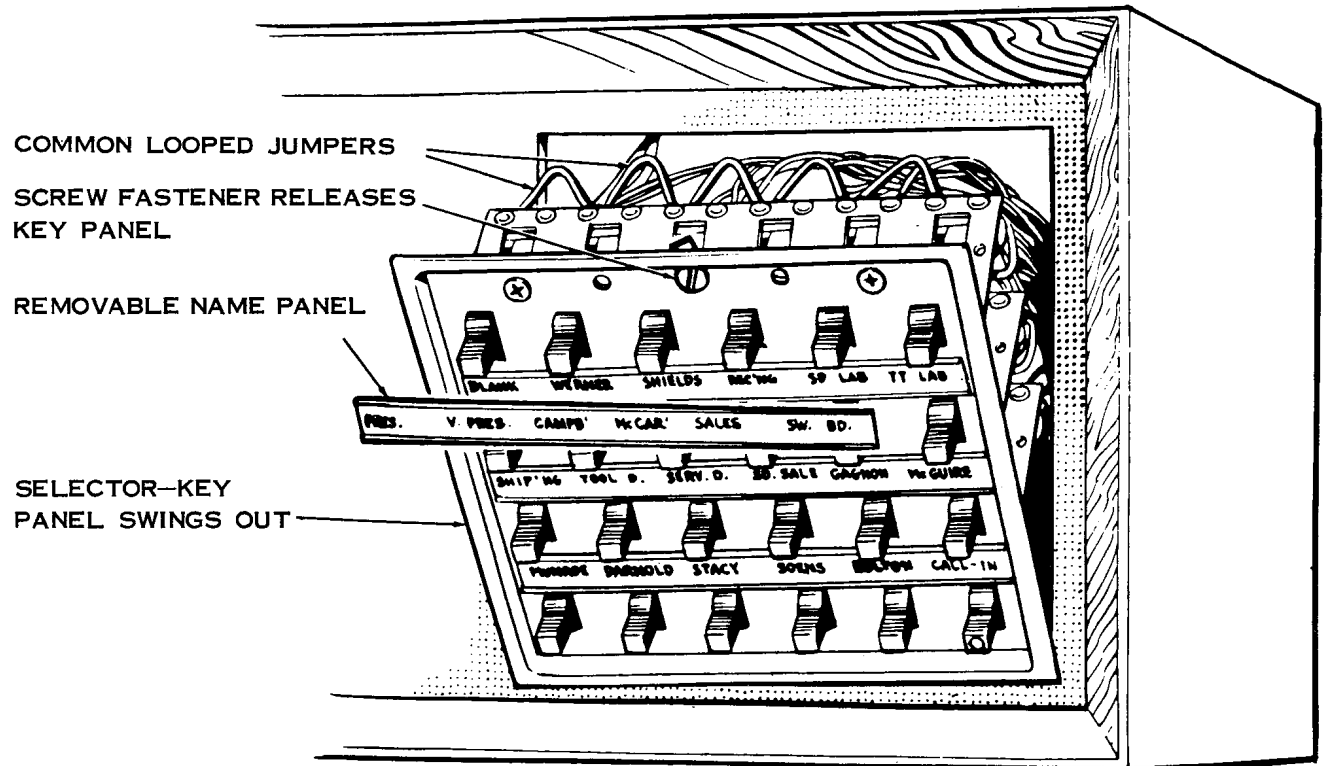

Figure 5 - Removal of Key Panel
5.10 The panel is removed by turning a latch, located at the top of the panel, with a screw driver. After the latch disengages the cabinet front, tilt the switch panel away using the bottom of the cabinet opening as a hinge (see Figure 5).